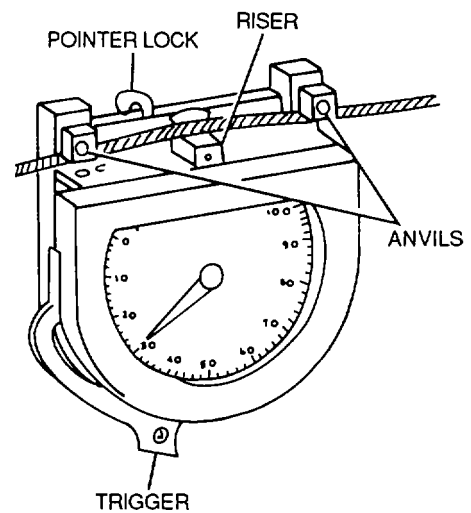

Figure 7-4. Tensiometer
a. Description. Several manufactures make a variety of tensiometers. Each type is designed for different kinds of cable, cable sizes, and cable tensions. A typical tensiometer is shown in figure 7-4. Cable tension is determined by measuring the amount of force needed to make an offset in the cable between two hardened steel blocks, called anvils. A riser or plunger is pressed against the cable to form the offset.